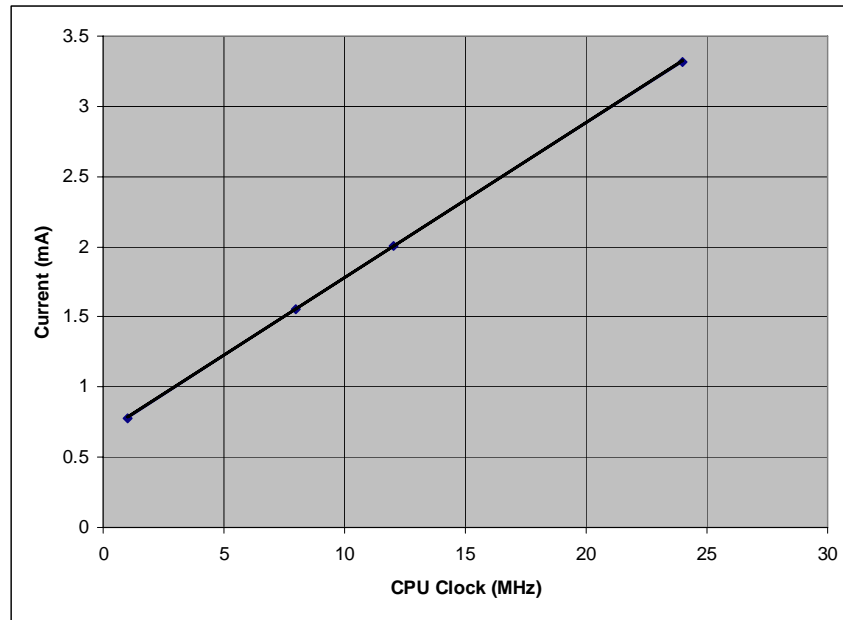

Figure 3-21. Current versus CPU Clock Rate
- Control CPU and peripheral clock rate - The CPU and peripheral clocks run at the same rate and are controlled by the System Control (SYS_CNTL) Register in the CRM (see Section 5.9.1, “System Control \(SYS_CNTL\)”). The clock can sometimes be slowed down if the application does not require high throughput. Figure 3-21 illustrates device current versus CPU clock rate (radio inactive and peripheral inactive). Rate of current change is approximately 0.11 mA/MHz.